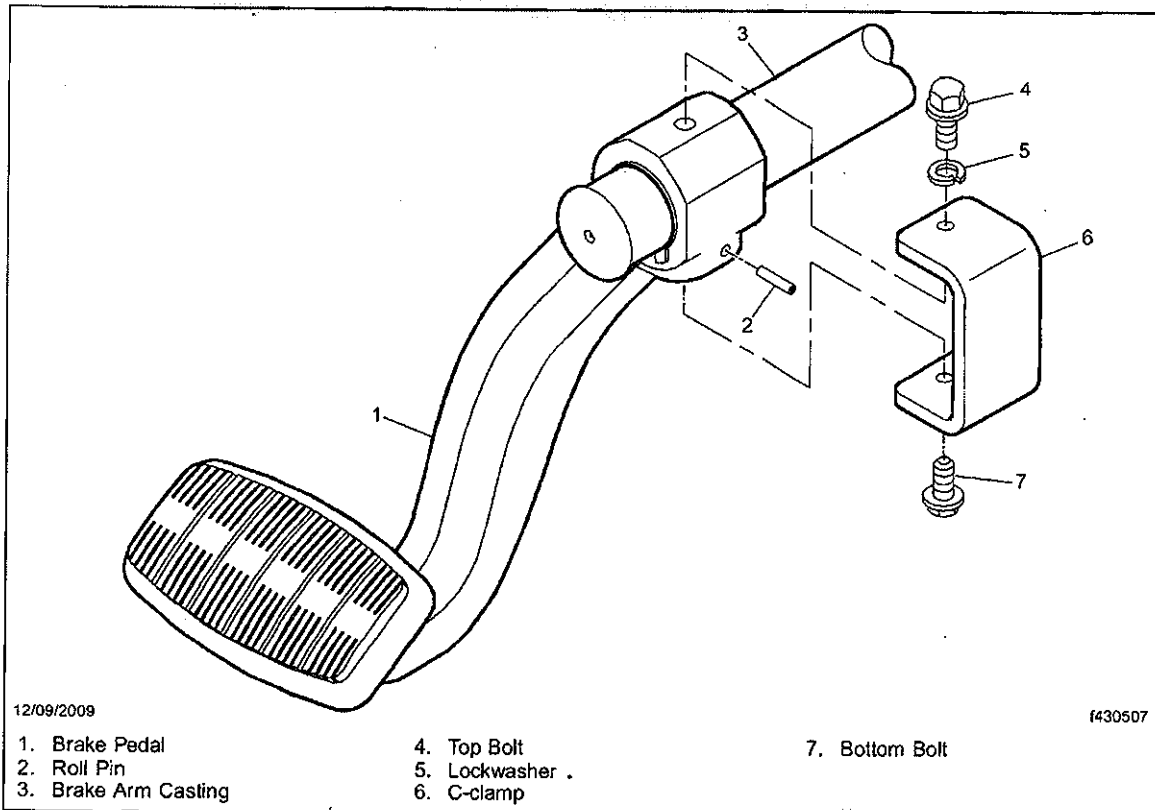

Fig. 1, Adjustable Brake Pedal Assembly
3. Check to see if a C-clamp or roll pin is installed on the adjustable brake pedal. See Fig. 1.
1. With the C-clamp in your hand, install the C-clamp assembly in the guide hole at the top of the brake arm casting. Make certain the C-clamp is against the casting. The bolt with the lockwasher should be installed at the top, as shown in Fig. 1, Items 4 and 5. Then tighten the bottom bolt 40 ± 5 lbf-in (452 ± 5 N-cm).